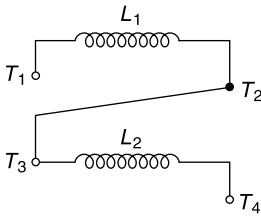

Fig. 3.41 Connection of two coils, 1st case
3.61 Two coils with terminals T_1 , T_2 and T_3 , T_4 respectively are placed side by side. Measured separately, the inductance of the first is $1200 \, \mu\text{H}$ and that of the second coil is $800 \, \mu\text{H}$. With T_2 joined with T_3 (Fig. 3.41), the total inductance between the two coils is
Let the mutual inductance between the two coils be M , then total inductance $L_1 + L_2 + 2M$. In the first case (refer (Fig. 3.41)